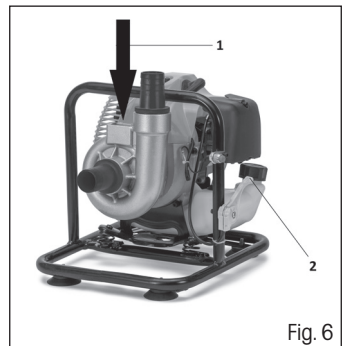

Fig. 6
- ✿ Fill the pump fully with water through the inlet orifice (fig.6, point 1).
⚠ CAUTION: If the pump does not operate immediately or after more than 4 minutes, the likely cause is in partial filling of the suction hose or air intake. Recheck the condition of all sealings and tightening of connections. Refill the pump completely using the filling opening (fig.6, point 1). To set the flow rate value (from min. to max.), use the carburettor throttle trigger (fig.6, point 2).